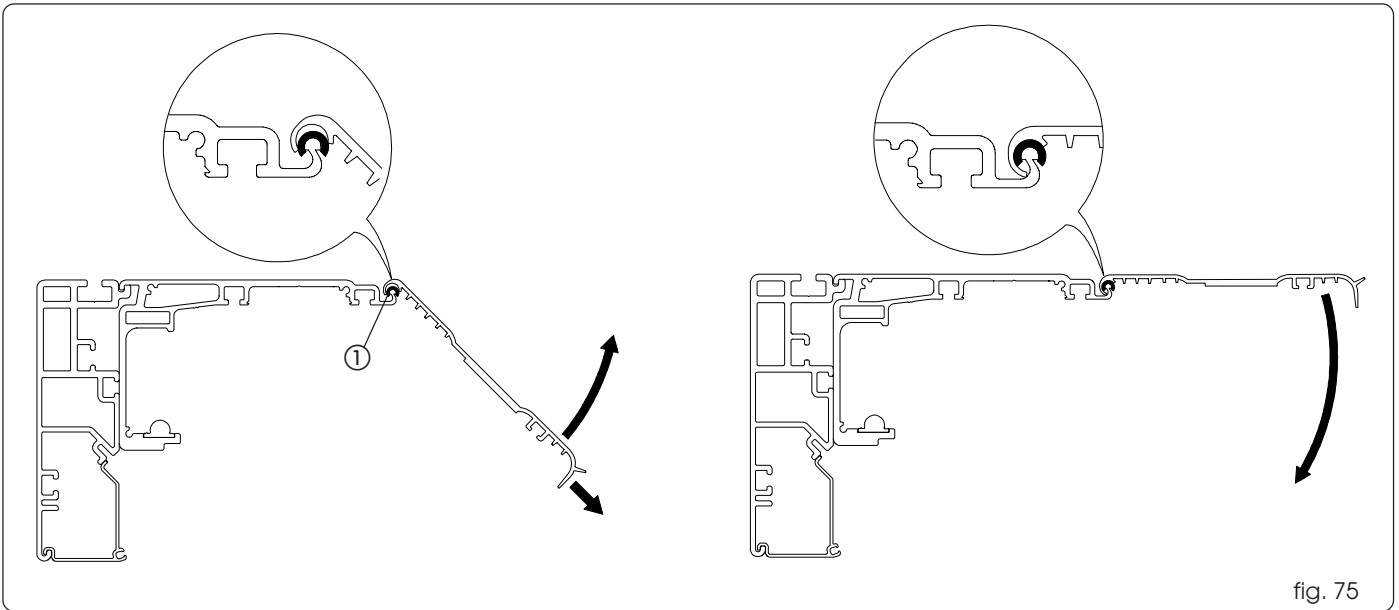

fig. 75
Fit the anti-vibration spacers (fig. 75 ref. ①).
Position the closure housing on the spacers; pull it as shown in fig. 75 and turn it upward to obtain correct attachment.